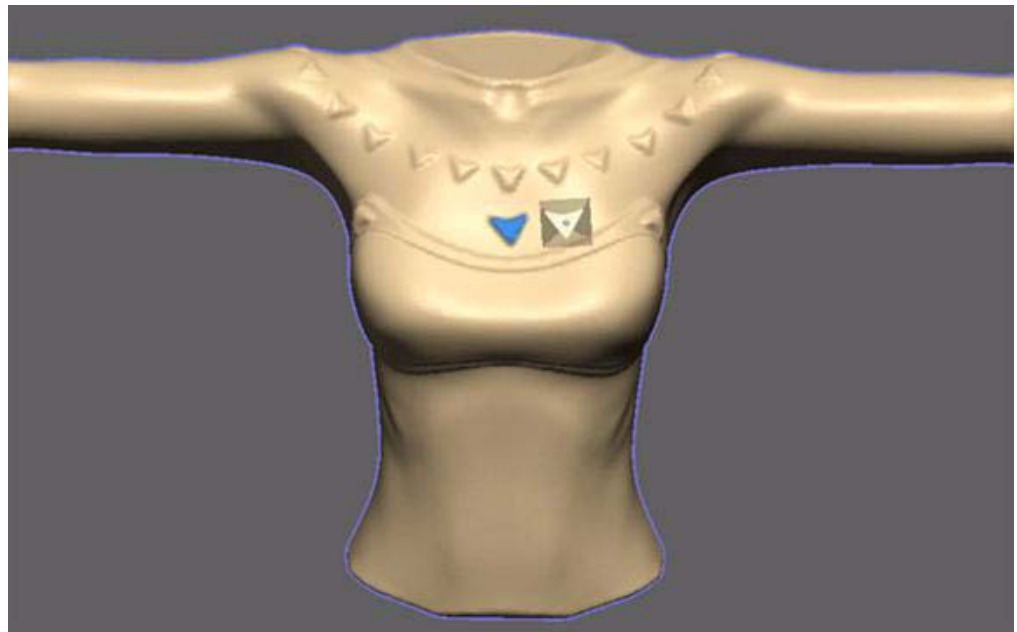

FIGURE 2-17. Upper row of triangles have been embossed. Another row is being stamped.
- 8 Reduce the Diameter setting on the Emboss Area Dynabar until the image is approximately the size displayed in Figure 2-17.
- 9 Stamp the triangle alpha image on the clay. Figure 2-17 shows several embosses as well as several stamps in process.